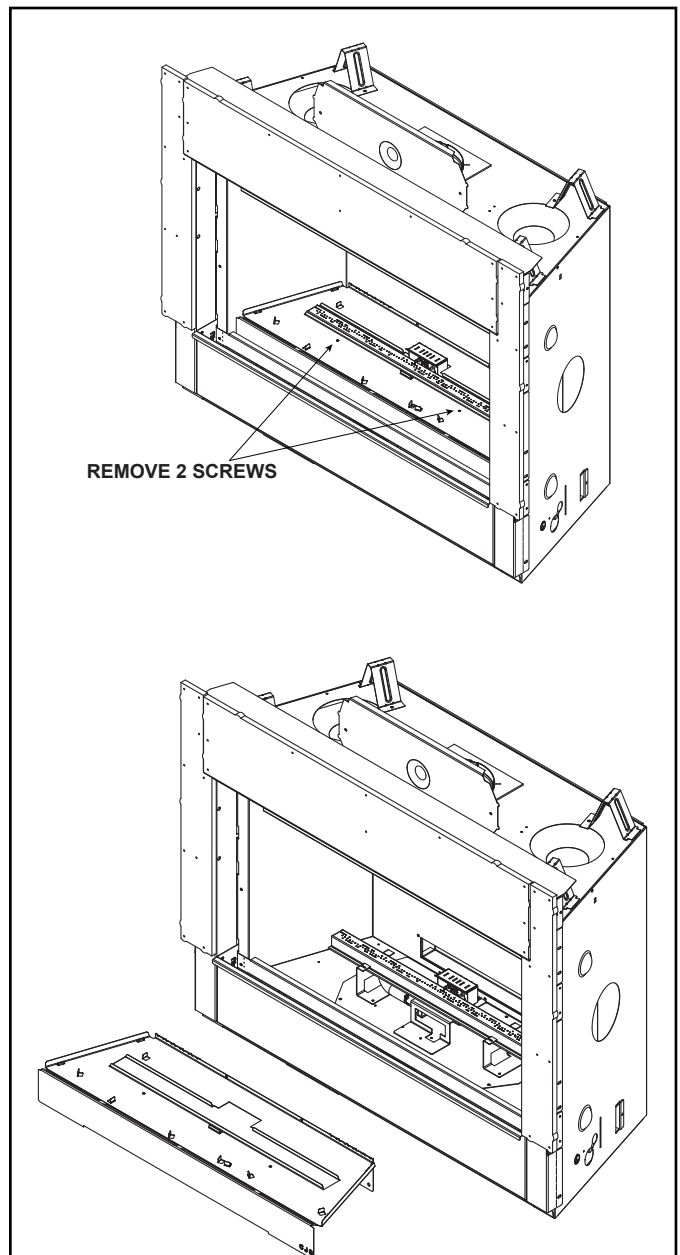

Figure 9.1 Basepan Removal - COSMO42-IFT-B Shown
1. Locate and remove the two screws that secure the basepan to the appliance. See Figure 9.1. Remove basepan. Retain screws.